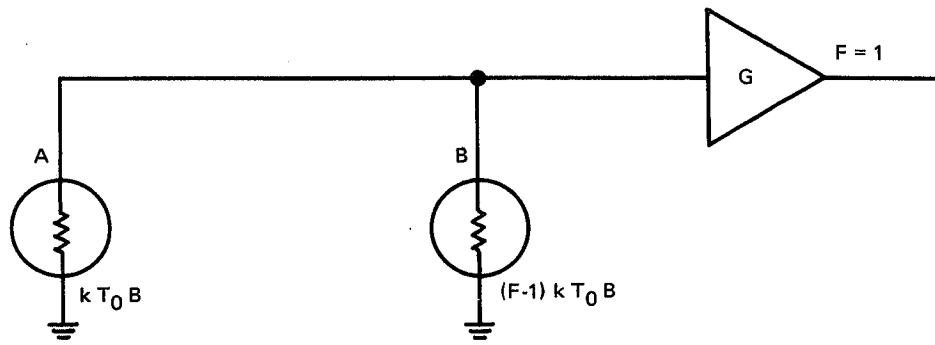
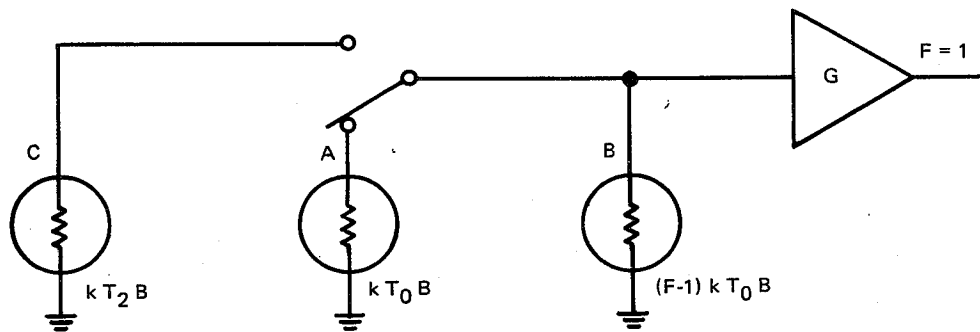

Figure 4-1. Equivalent Noise Representation of a Noisy Network
Figure 4-2. Equivalent Representation of Noise Figure Measurement Set-up
Figure 4-1 is a representation of Equation 4-5. Noise source A is the input termination while noise source B is a fictitious source representing network contribution to the noise output with reference to the input.
4-7. Figure 4-1 can be modified as indicated in Figure 4-2. A switch has been added so that the original input termination (A) can be disconnected and the network input terminated in a second source (C) at temperature  $T_2$  (the temperature of the noise generator).
4-10. The element marked "C" represents the directional coupler through which the noise is injected.  $T_e$  is the effective input noise temperature of the receiver and comparison with Figures 4-1 and 4-2 shows that it is related to noise figure by: